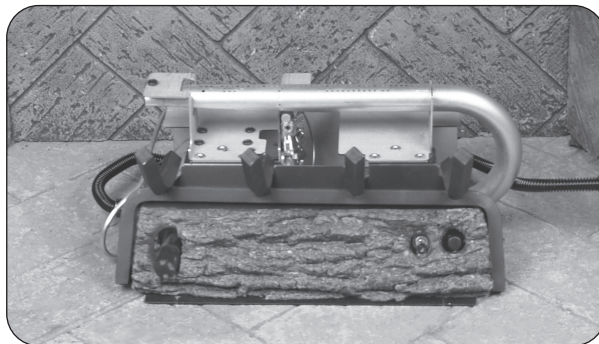
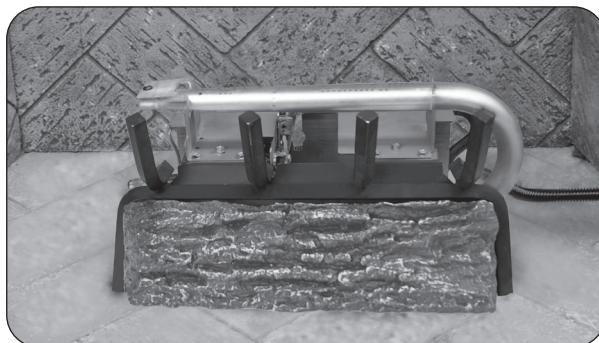

Fig. 20-2 Install decor cover (12 valve)
Fig. 20-3 Install decor cover (15 valve)
**For all other models:** install the decor panel onto the front of the burner (see Fig. 20-2 for 12 valve models and Fig. 20-3 for 15 valve models).